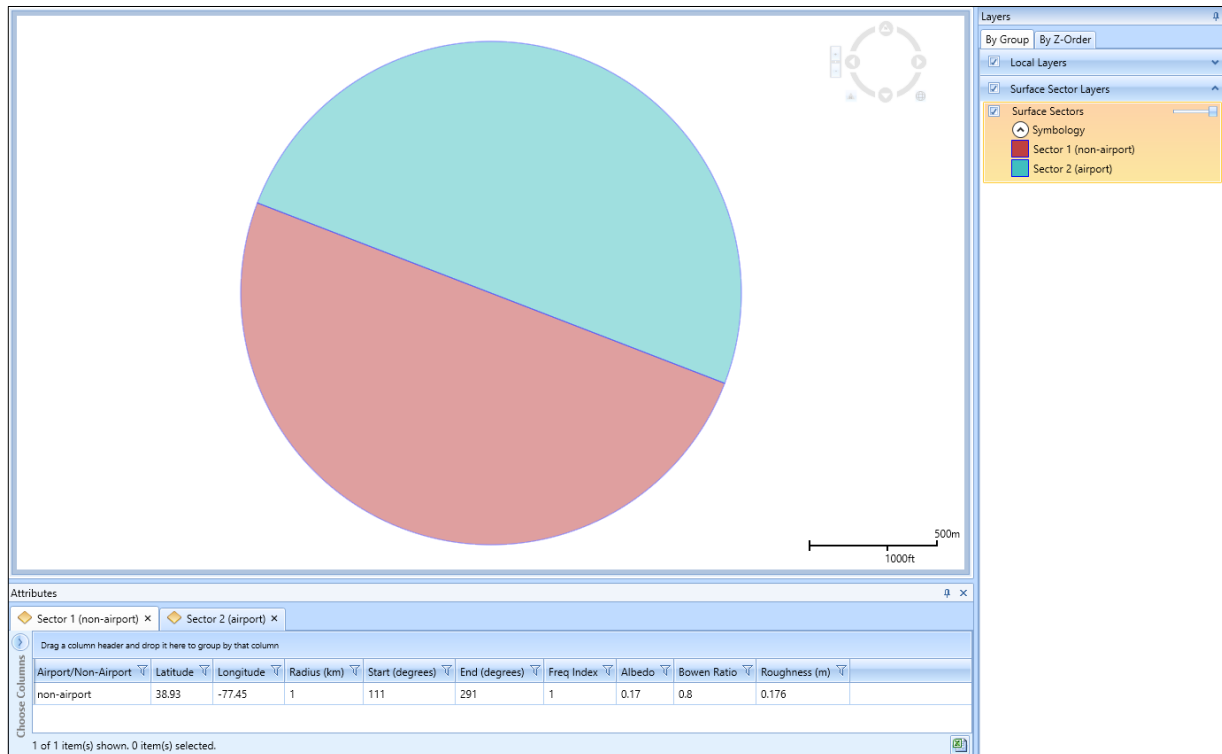

Figure 5-49 Sample Surface Sector Layer with Attributes
3. The Surface Sector Layer is displayed on the map (Figure 5-49) and in the *Layers* manager.